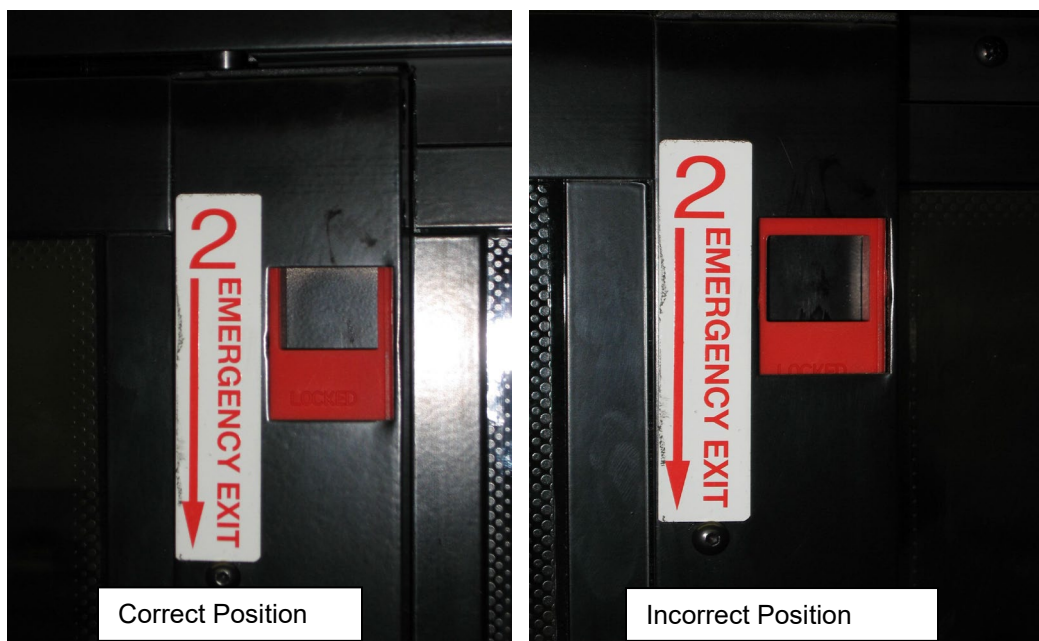

FIGURE 51: RELEASE LATCH PROPER POSITION
2. Position the left hand lower corner of the sash over the front cam follower block (Figure 51)